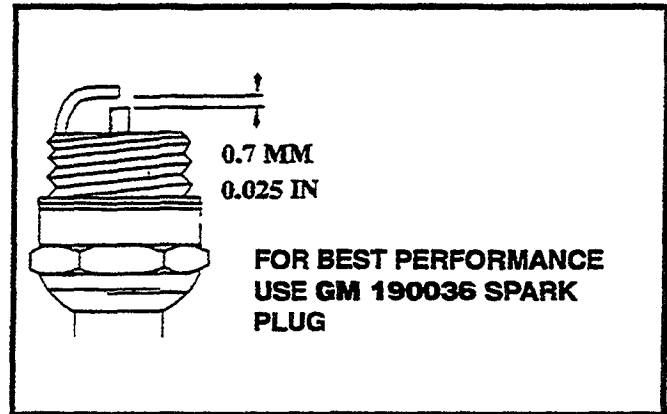

Figure 12
- Remove, clean, and regap spark plug (0.7mm/0.025 inches) (Figure 12).